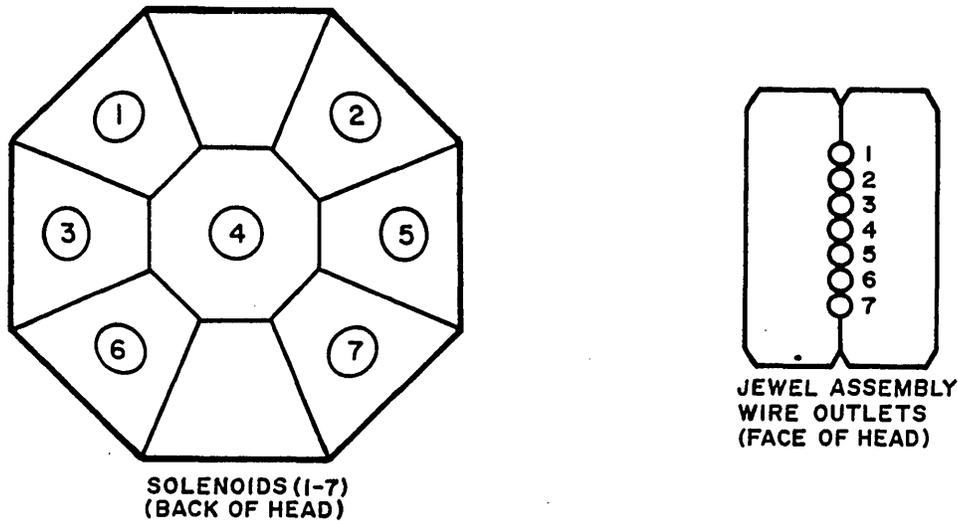

Figure 4-18. SOLENOID POSITIONS, 1 THROUGH 7
4.5.5 PRINT HEAD OPERATION (Figures 4-18, 4-19)
The print head is the device used to print the characters. The head contains seven solenoids that move seven wires against the ribbon to form the column of dots on the paper. The position of these solenoids and the location of the wires in the head are shown in Figure 4-18. Solenoid #1 controls the top dot and solenoid #7 controls the bottom dot in a column. The wires come from each solenoid and are positioned at a jewel located at the end of the head. The length of these wires is approximately 3.5 inches and each wire requires about one ounce of force to begin its movement. The amount of force needed to move the wires 0.015 inch (i.e., the distance necessary to make a dot on the paper) is about 12 ounces.